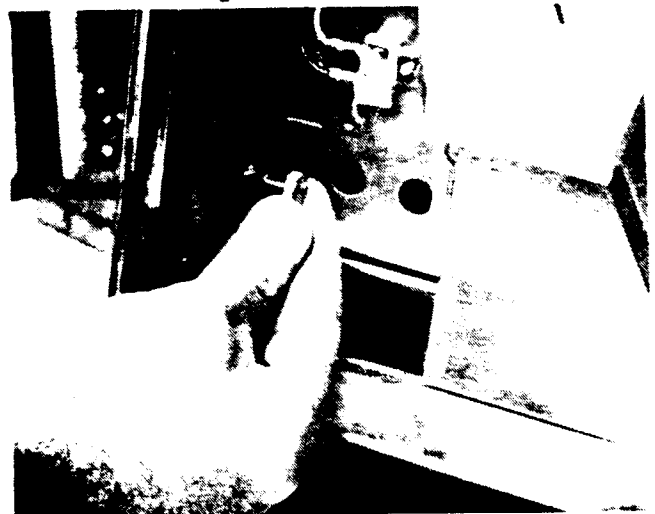

Figure 4-20
- 3) Pull out the spring pin that is located on the lower left side of the light assembly. See Figure 4-20.